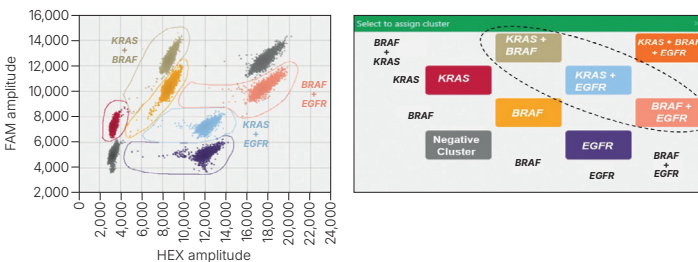

Fig. 24. Thresholding the Total Quant Assay double-positive clusters.
- Threshold the double-positive clusters (*KRAS + BRAF*, *KRAS + EGFR*, and *BRAF + EGFR*) as shown in Figure 24. *KRAS + BRAF* threshold should include the upper left cluster adjacent to the previously thresholded *BRAF* cluster and extend down to the previously thresholded *KRAS* cluster. The *KRAS + EGFR* cluster should contain the cluster above the previously thresholded *EGFR* cluster and extend toward the *BRAF* cluster tail. The *BRAF + EGFR* threshold should contain the cluster just below the unthresholded triple-positive cluster and the tails that extend toward the *BRAF* and *EGFR* clusters.